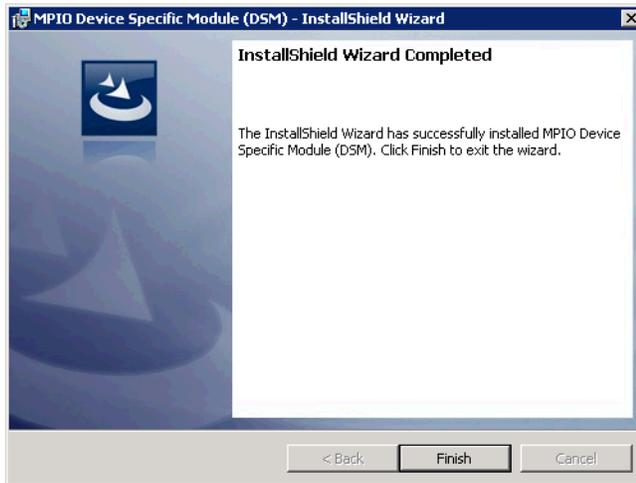

Figure 4-15 MPIIO Device Specific Driver - installation completed
4. Finally, click **Finish** to complete the installation process. A reboot is required to apply the new driver changes. See Figure 4-15.